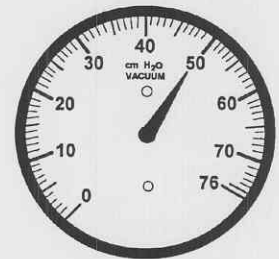

Figure 3-3. Vacuum level requirement.
- (12) Pinch or clamp the patient tube(s) closed.
- (13) Turn the vacuum regulator knob to its maximum clockwise position.
- (14) Observe that the vacuum gauge (fig 3-3) indicates a minimum of 50 cm H₂O. Record the vacuum level.
- (15) Open the patient tube(s) momentarily until the vacuum gauge indicates "0" and then pinch or clamp the patient tube(s) again.